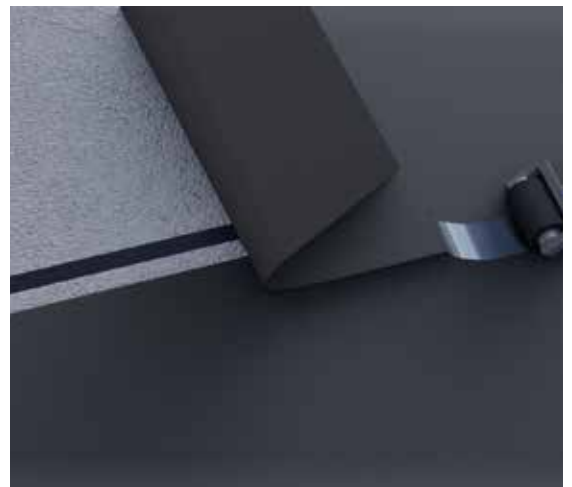

Fig. 2
- Do not remove the release liner on the Probreathe Duo Tape until you are ready to install the membrane - see Fig. 2.
- Probreathe A2 can be laid horizontally or vertically and is partially bonded back to the substrate using Probreathe FR Duo Tape, installed at 500mm centres - see Fig. 2 and 3.
- Ensure all perimeters of underlying Probreathe A2 are bonded back to the substrate with Probreathe FR Duo Tape - see Fig. 2 and 3.